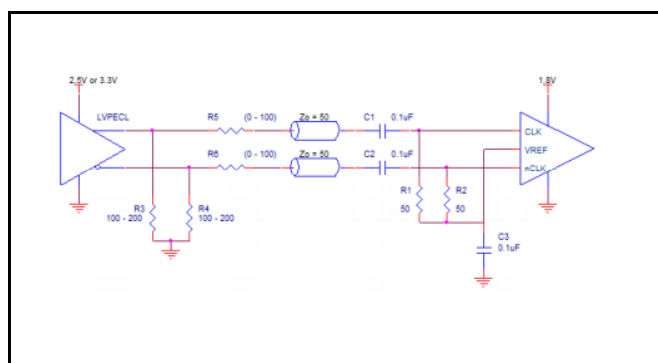

Figure 2B. Differential Input Driven by an LVPECL Driver - AC Coupling
- [a] V_{REF} specification is applicable to the AC-coupled input interfaces shown in *Figures 2B and 2C*.